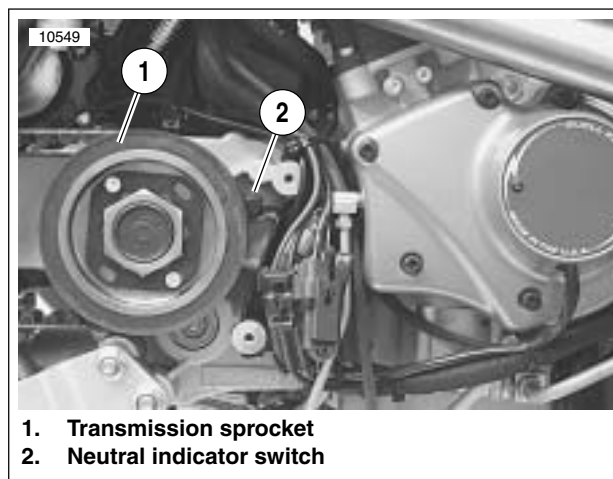

Figure 7-69. Neutral Indicator Switch Location
See Figure 7-69. The neutral indicator switch (2) is threaded into the transmission portion of the right crankcase half. It is immediately forward of the transmission sprocket (1). The sprocket cover must be removed to test the switch.
2. See Figure 7-69. Disconnect wire lead from neutral indicator switch (2).